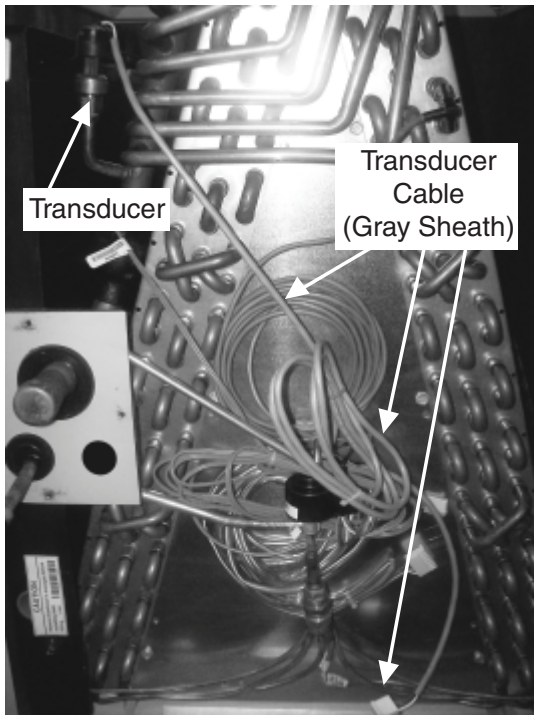

Figure 2. Pressure Transducer and Cable in iQ Drive® coil Assembly 919230E
- Pressure transducer, with associated 3-wire cable (Figure 2)